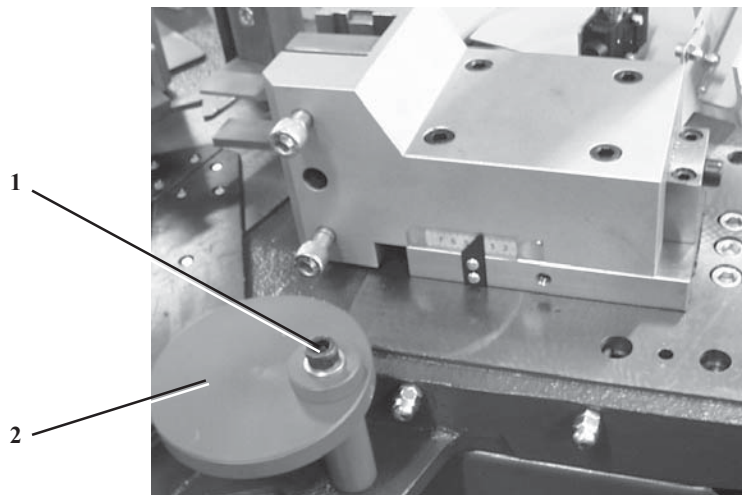

Fig. 5.4
- Loose the screws (1, fig. 5.4) and swing outwards the eccentric guides (2).
- Fix the eccentric guides by tightening the screws (1).